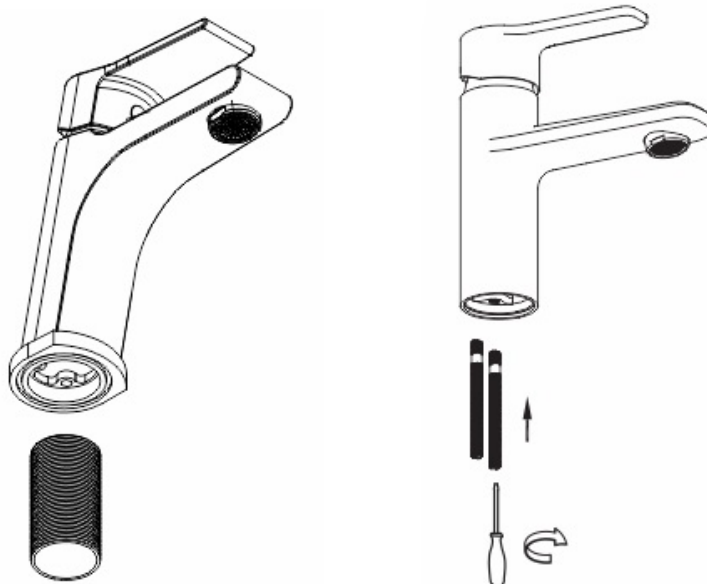

Figure 1
3. Screw in the mounting thread or stud (Figure 1), which are included in the delivery set (the delivery set depends on the faucet model);